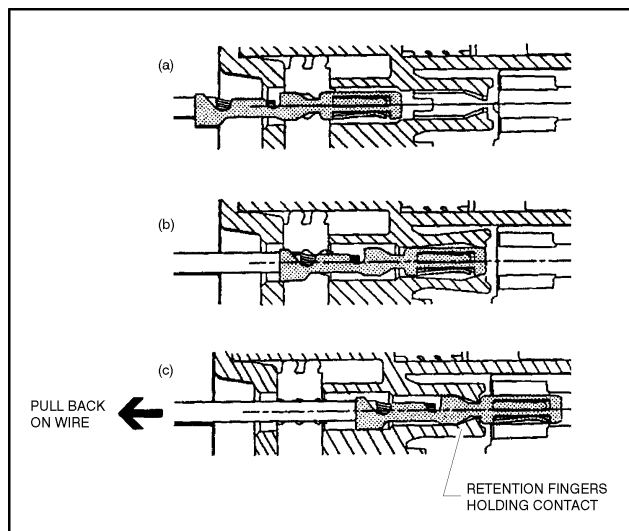

Figure 6-7. Connector Assembly (2 of 4)
1. To insert a contact, push it straight into the appropriate circuit cavity as far as it will go (See Figure 6-7. Connector Assembly (2 of 4)).
2. Pull back on the contact wire with a force of 1 or 2 lbs. to be sure the retention fingers are holding the contact (See Figure 6-7. Connector Assembly (2 of 4)).